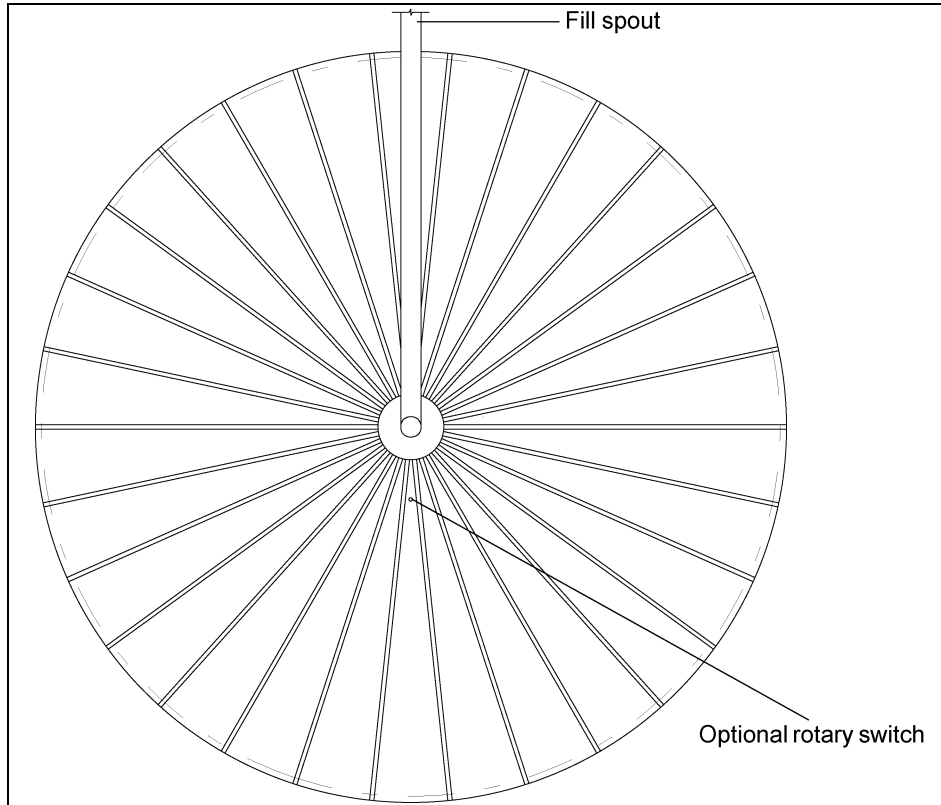

Figure 9I Overhead View of Optional Rotary Switch Locations
Drill 2" diameter holes through roof panels at locations as shown in Figure 9I. Use a mounting plate as a pattern and drill four (4) 3/8" holes through roof panels at each switch location so the plate can be bolted to the roof.
Drill 2" diameter holes through roof panels at locations as shown in Figure 9I on Page 58. Use a mounting plate as a pattern and drill four (4) 3/8" holes through roof panels at each switch location so the plate can be bolted to the roof.